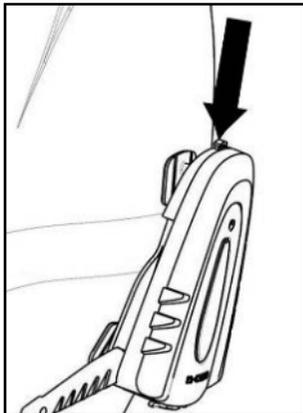

Fig. 9
- Close the safety block by pressing it downward, as shown in Fig. 9;